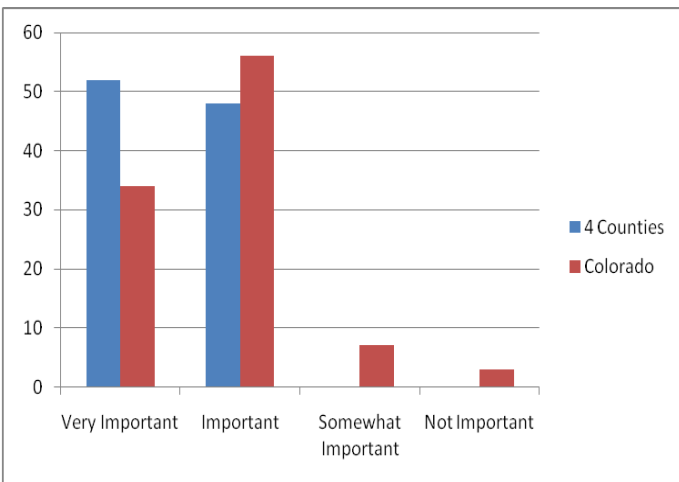

Figure 1: Importance of knowledge management
practices to ensure that mission critical (operations) personnel have the knowledge and skills to operate effectively. To accomplish this goal a survey was conducted of Colorado operators within 4 counties (Arapahoe, Denver, Boulder and Douglas) and throughout the state of Colorado. Results for the 150 respondents to the survey are shown in Figures 1 and 2. The results indicate that knowledge management (KM) is considered “important” to “very important” by the vast majority. Also, formal knowledge management programs are ongoing in less than 10 percent of the systems. This would indicate the timing is ideal for conducting activities to assist systems in implementing knowledge management.